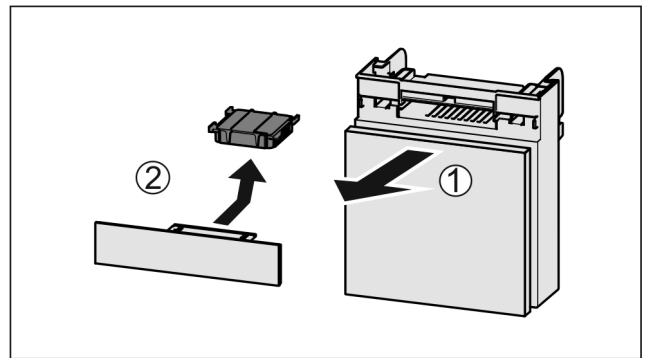

Fig. 123
- ▶ Pull out the compartment Fig. 123 (1).
- ▶ Remove the carbon filter Fig. 123 (2).